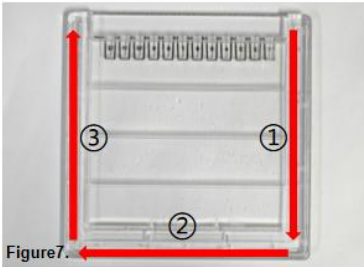

Figure7.
④ Repeat this operation on all three sides until the plates are completely separated (Figure 7).